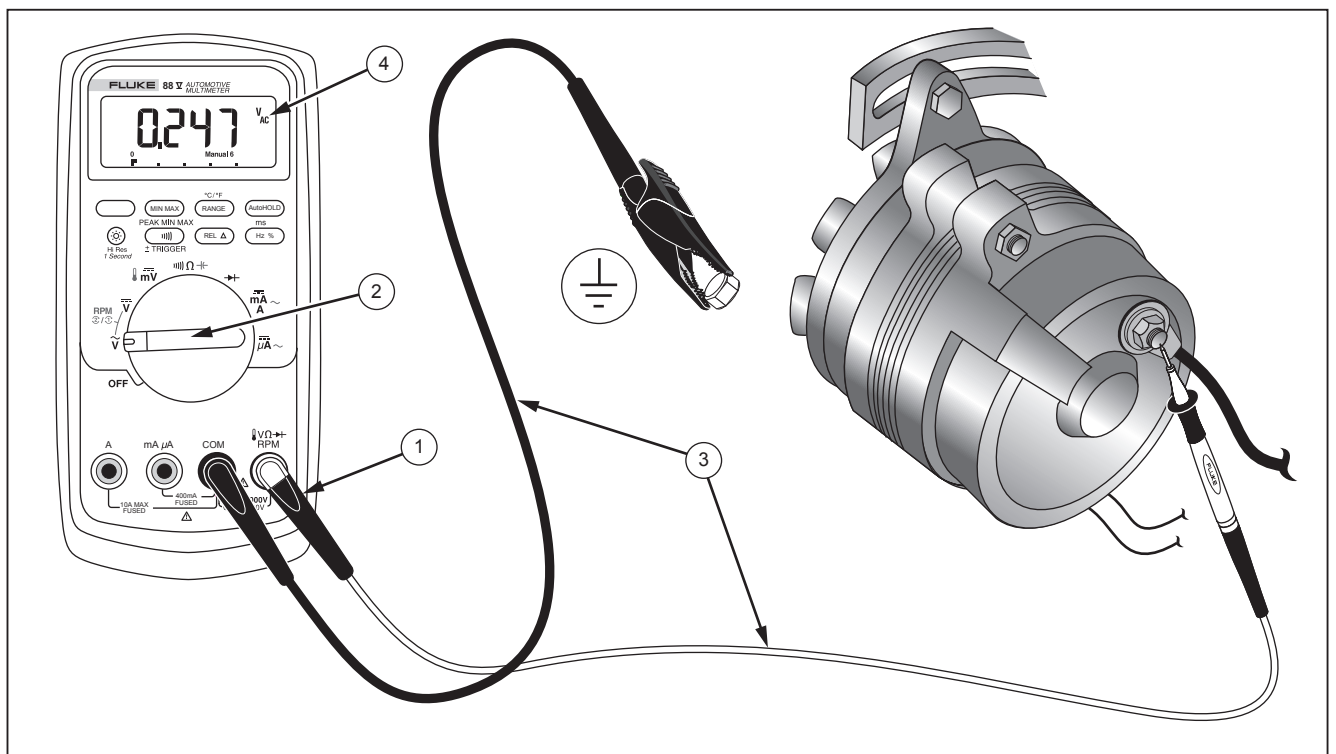

Figure 13. Testing Ripple Voltage on an Alternator
1. Insert the test leads as shown in Figure 13.